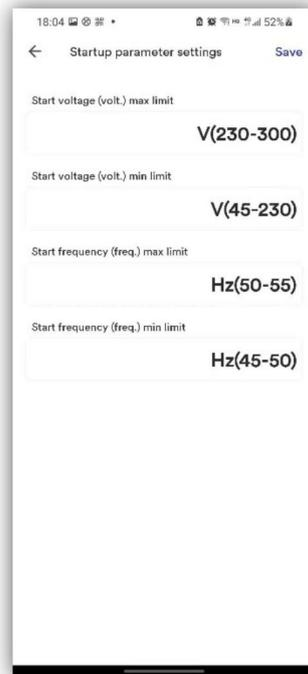

Figure 15 Grid voltage protection settings
**Voltage monitoring:** Click "Grid voltage protection", the next page will display the parameters, as shown in Figure 15.